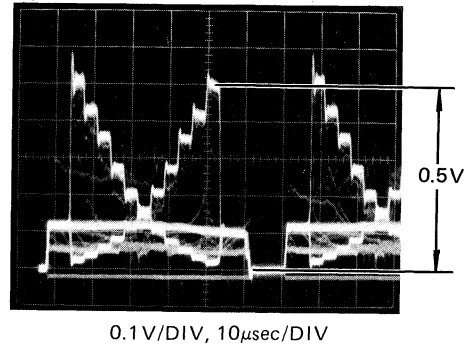

Fig. 4-2-31
- Adjust AIC SET VR3 so that the waveform is $0.5\text{V} \pm 0.02\text{V}$ from the blanking level to the top step of the gray scale waveform. (Fig. 4-2-31)